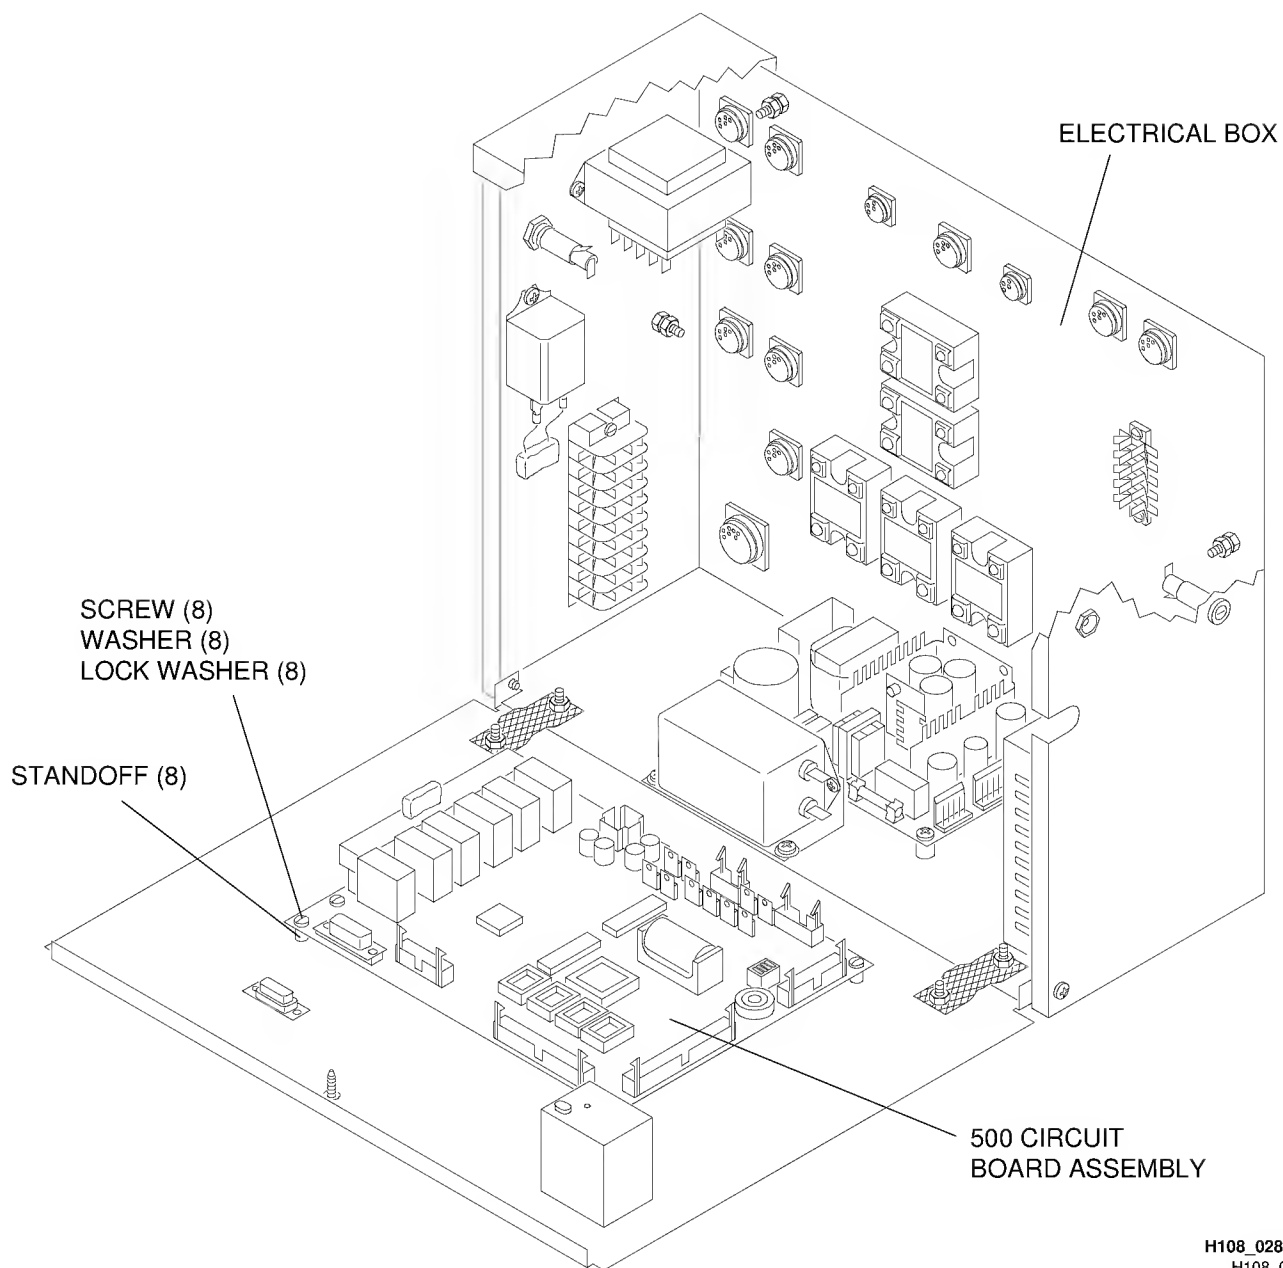

Figure 6-15 Locating the 500 Circuit Board Assembly
- [2] Locate the 500 CIRCUIT BOARD ASSEMBLY in the ELECTRICAL BOX. See Figure 6-15.
- (c) Place the new 500 CIRCUIT BOARD ASSEMBLY on the 8 STANDOFFS. See figure 6-15.